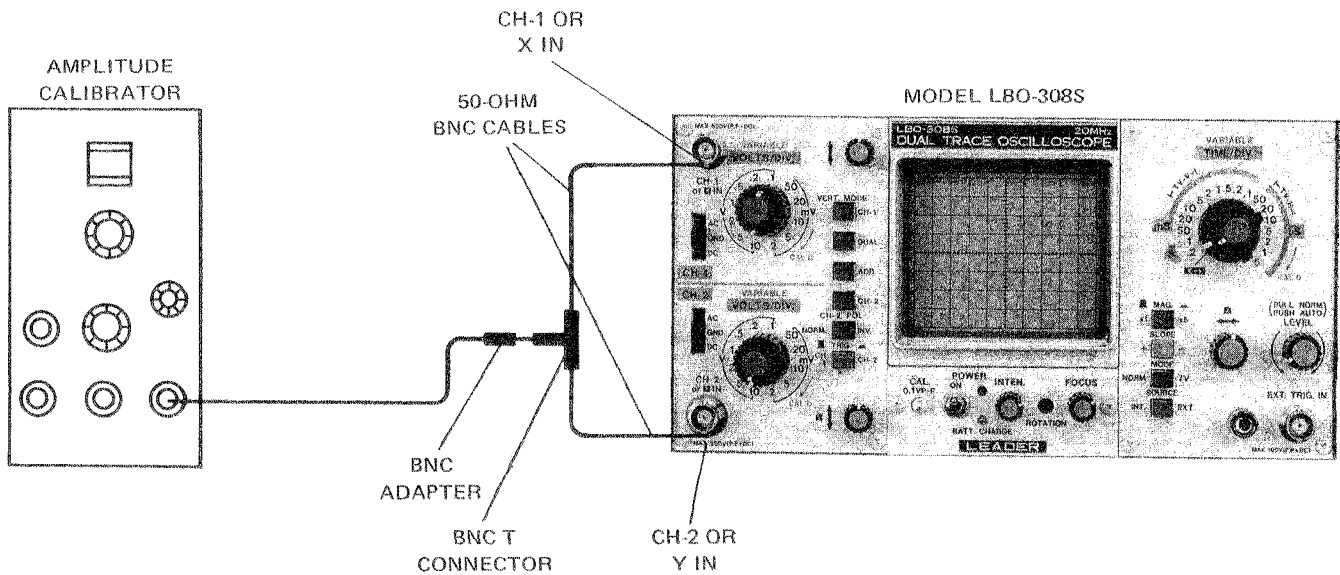

Figure 3-1. Deflection Accuracy Test Setup
- a. Connect equipment as shown in Figure 3-1.